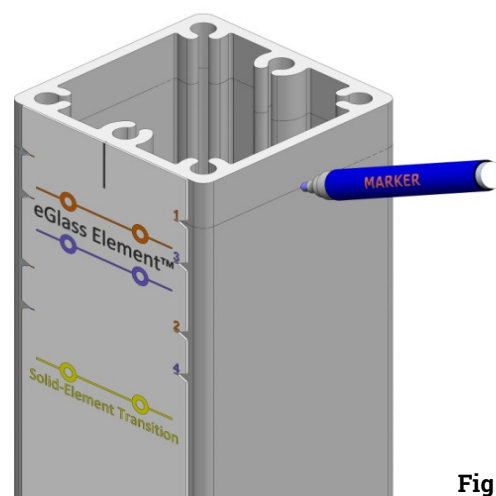

Fig 10
- Use the fascia mount drill card (for inline posts) or reference your Customer Detail Form (for stair posts) to measure and mark a cut line towards the top of the post. (Fig 10)